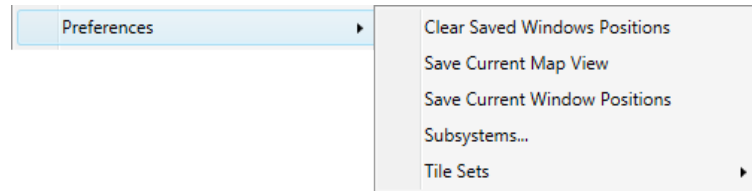

Figure 3-18 – Preferences Menu
- **Preferences Menu** (see Figure 3-18): This option allows the operator to set several preferences for how the GUI is presented. These preferences are discussed later in this section.